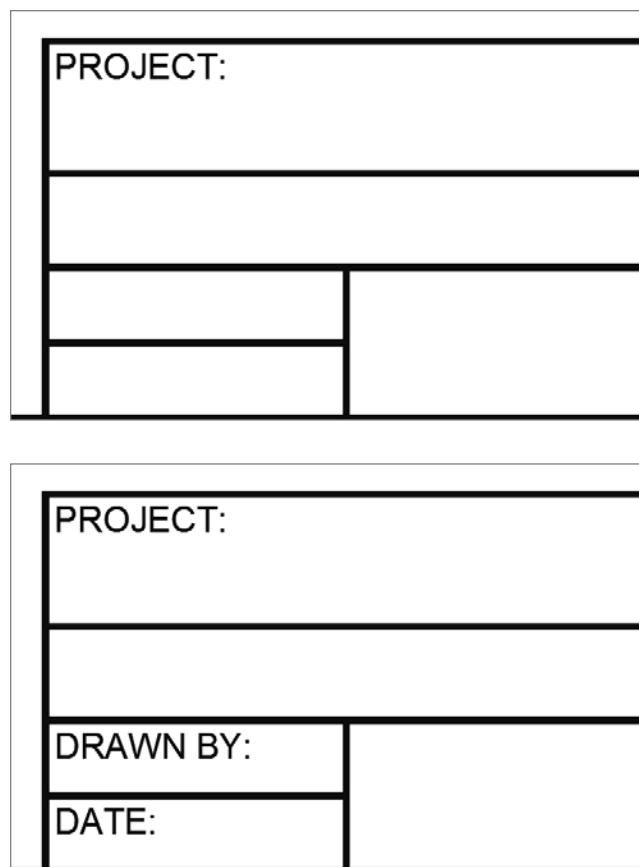

FIGURE 8.47 One line of text placed (top) and the text changed to the correct wording (bottom)
- The word "PROJECT:" appears in the upper box (see the left of Figure 8.47).
Doing this changes the text, so three of the boxes have their proper labels (see the bottom of Figure 8.47).